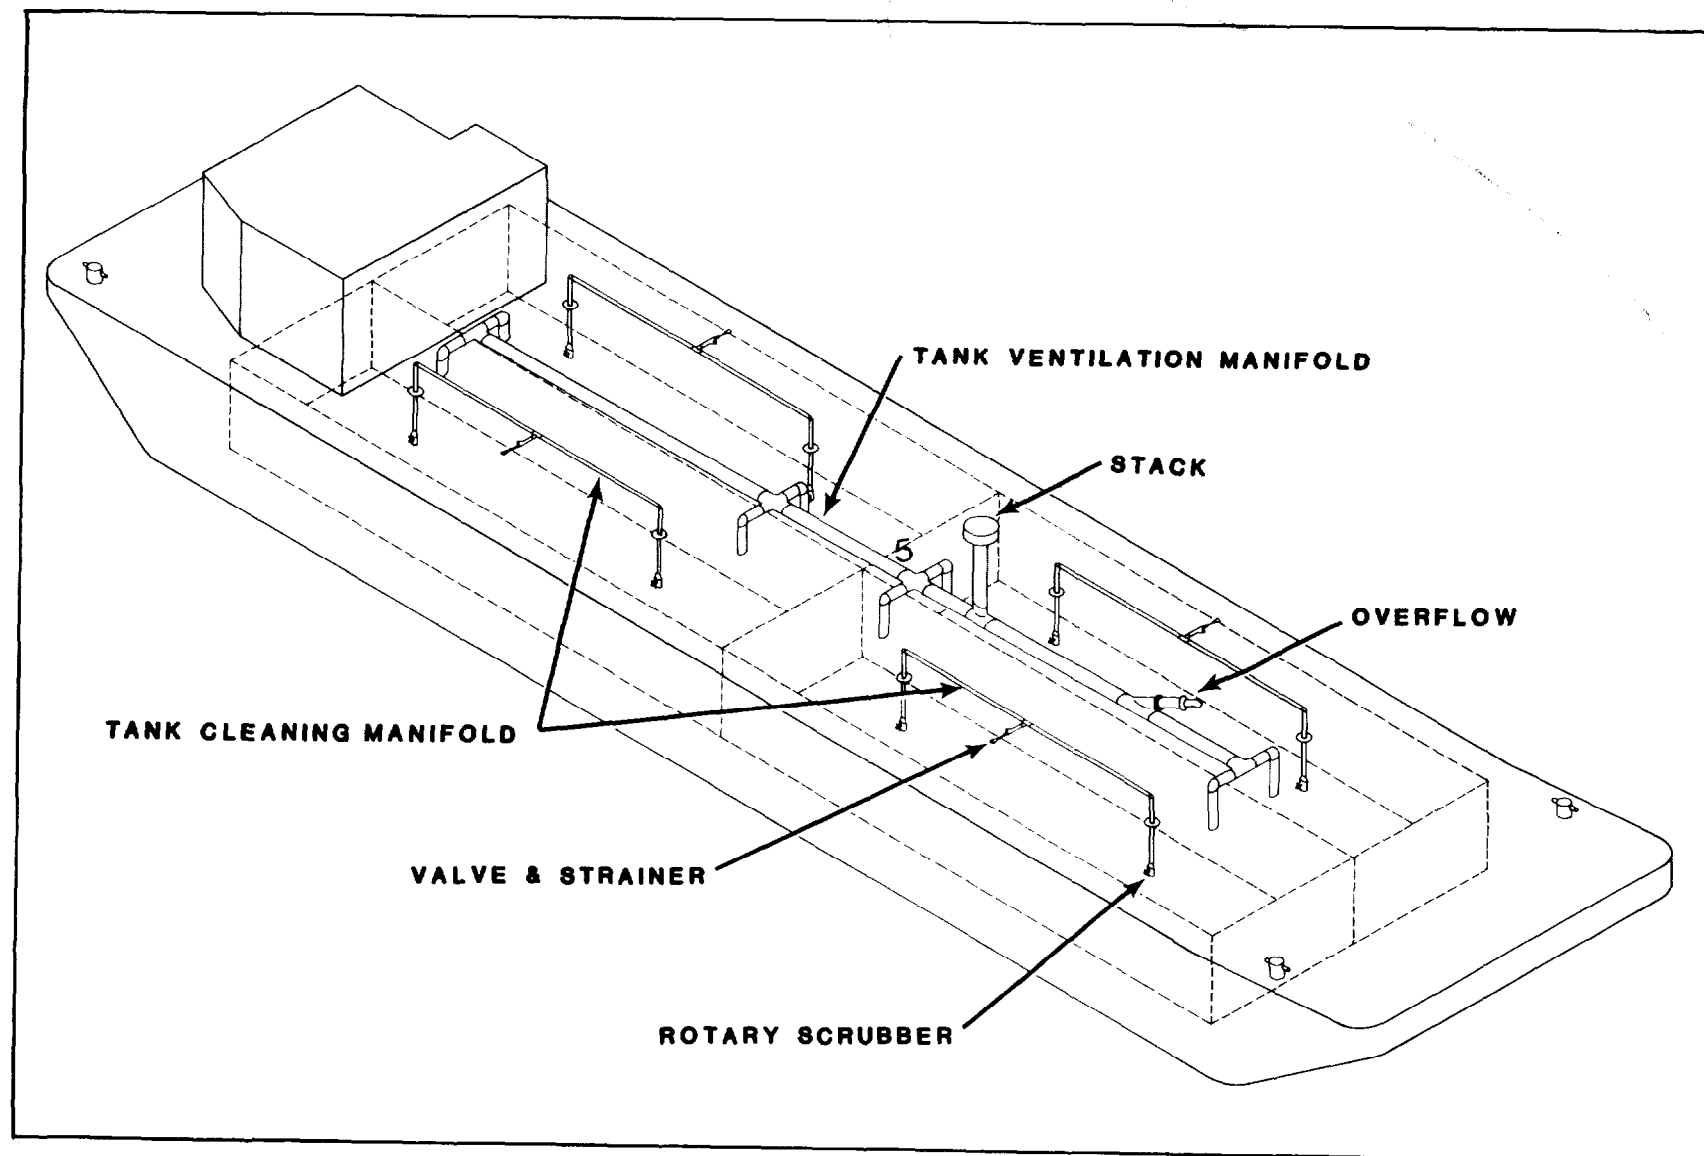
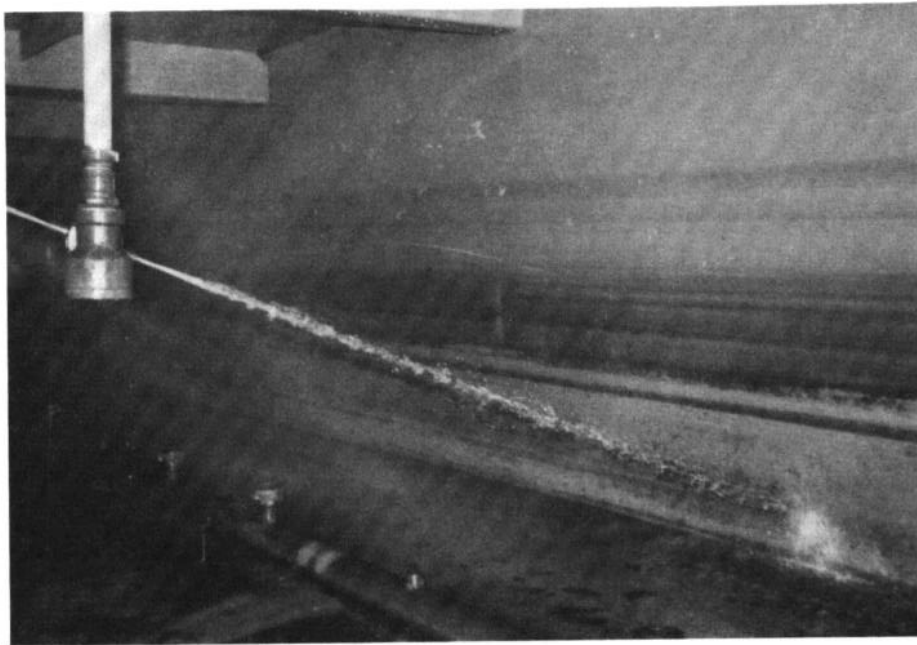

FIGURE 2-17
FIGURE 2-18
2.6.1 ROTARY SCRUBBERS. Cargo tanks are cleaned by the rotary tank cleaning scrubbers in each tank. Two scrubbers are mounted in each tank and piped to the deck as shown in Figure 2-17. Each manifold has a 2-1/2 inch firehose fitting and valve with strainer for connection to a saltwater source. The tank manifolds require a minimum of 55 psi and 50 gpm each for proper scrubber operation. The gearing of the scrubber causes a close patterned jet spray to hit the tank walls, as shown in Figure 2-18. A full pattern is completed every 44 revolutions of the nozzles or in 30 to 45 minutes of operation, depending on the water pressure.
2.6.2 TANK VENTILATION. Ventilation of the cargo tanks is provided through a deck piping manifold, as shown in Figure 2-17. These vents allow tank loading and aeration without opening the manhole hatches or the ullage ports. The central vent stack is high enough to keep odors and fine mist away from the Main Deck. The vent piping is 6-inch fiberglass pipe. An overflow with a check valve is mounted in the ventilation piping to discharge into the forward deck catchment area. If the cargo tanks are overloaded, the aeration system will force sewage out of the ventilation check valve. Maximum cargo loads must be kept below 90%, to allow tank aeration and prevent spills.